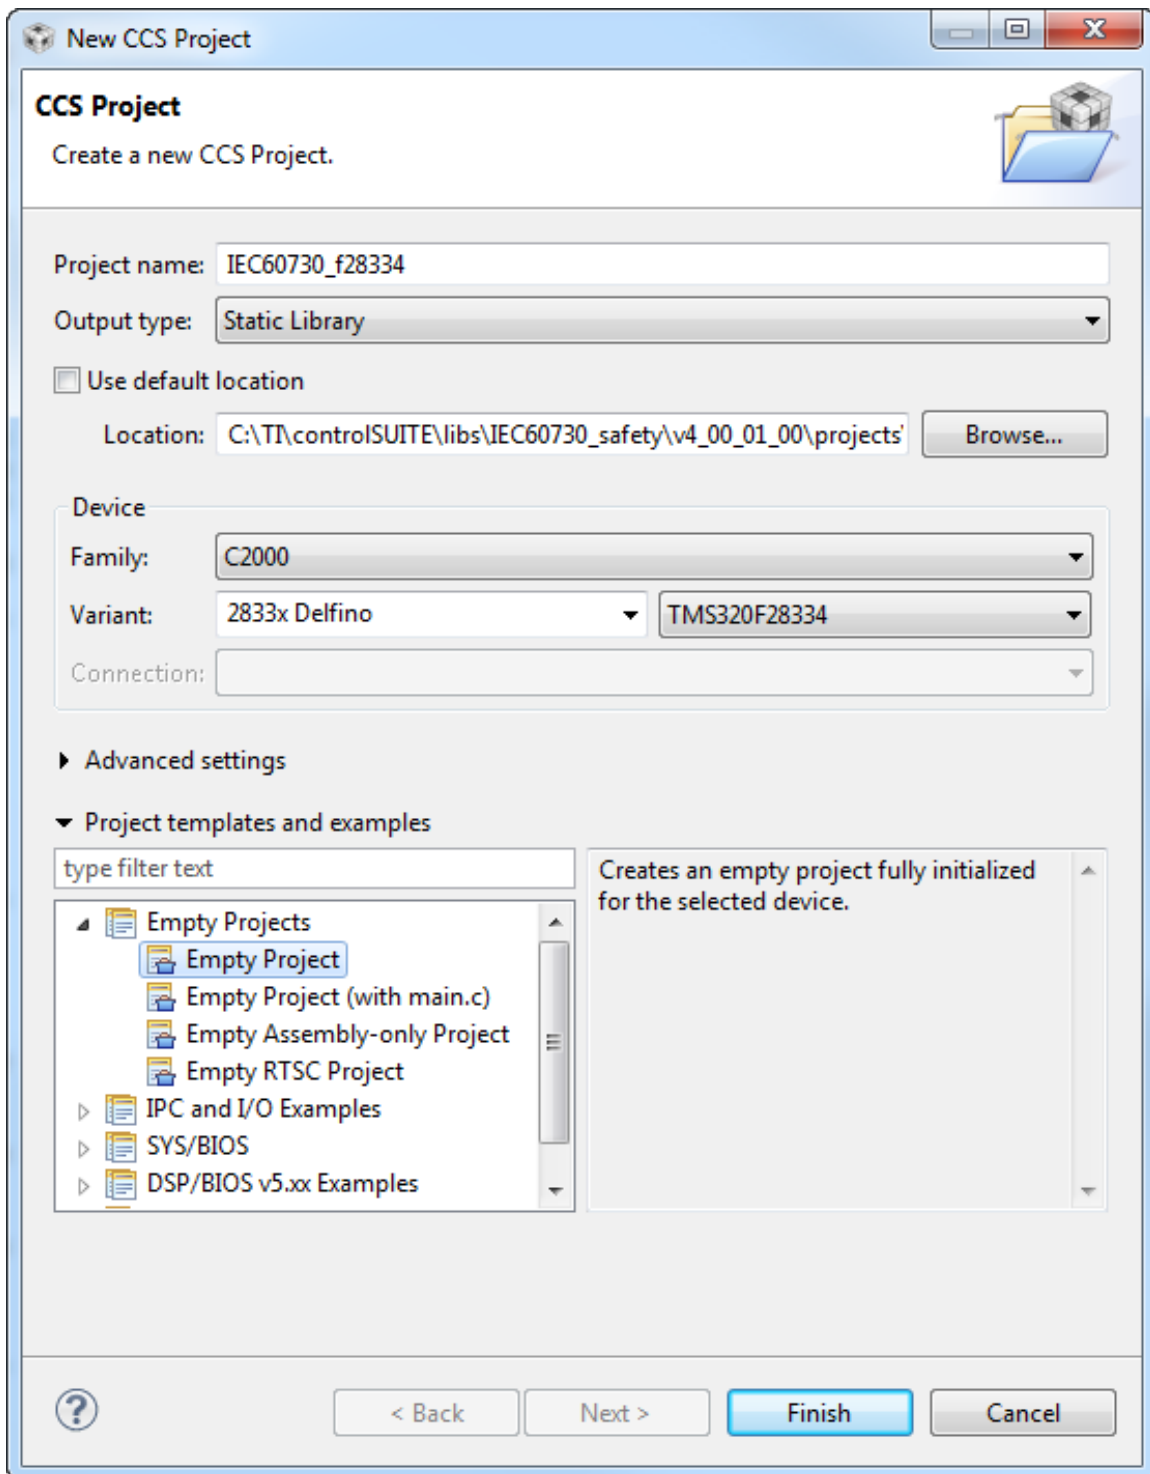

Figure G.1: Project Settings
3. Make the following changes listed in the **New CCS Project window**. See figure G.1.